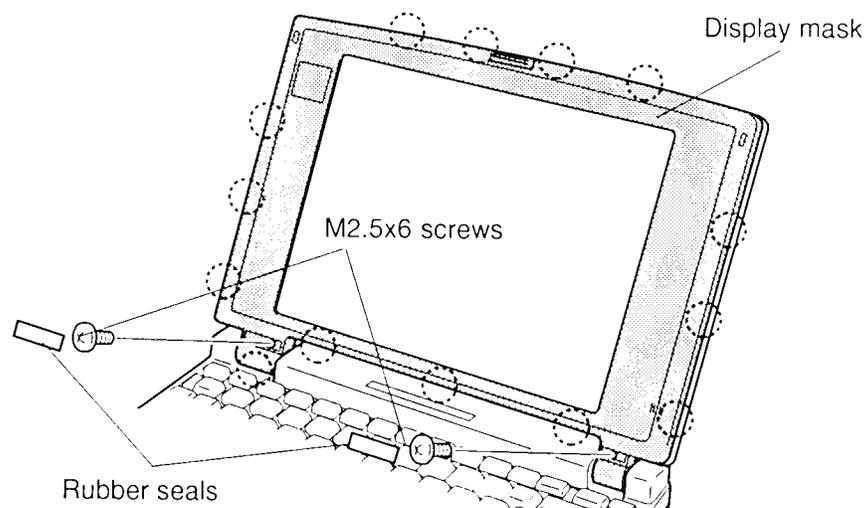

Figure 4-37 Removing the display mask
To remove the display mask, follow the steps below and refer to figure 4-37.
7. Continue unlatching the mask along the **sides (three latches on each side)**, at the bottom (**three latches**), and also at the display supports. (**One latch** at the small display support and **three latches** at the larger display support are not indicated in figure 4-37).
To install the display mask, follow the steps below and refer to figure 4-37.